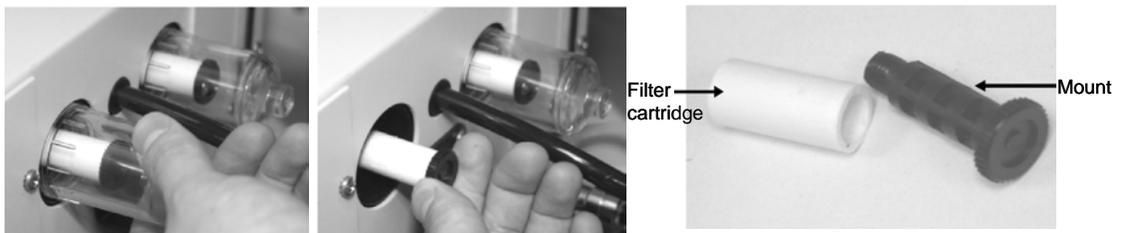

Figure 10-3. The PM_{2.5} and PM-Coarse in-line filters should be changed every six months.
2. Unscrew and remove the small filter covers for both the PM_{2.5} and PM-Coarse flow channels on the back of the unit (**Figure 10-3**, left).
3. Unscrew the filter mounts for both the PM_{2.5} and the PM-Coarse flow channels (**Figure 10-3**, center).
4. Slide the filter cartridges off the mounts and install new cartridges onto the mounts (**Figure 10-3**, right).